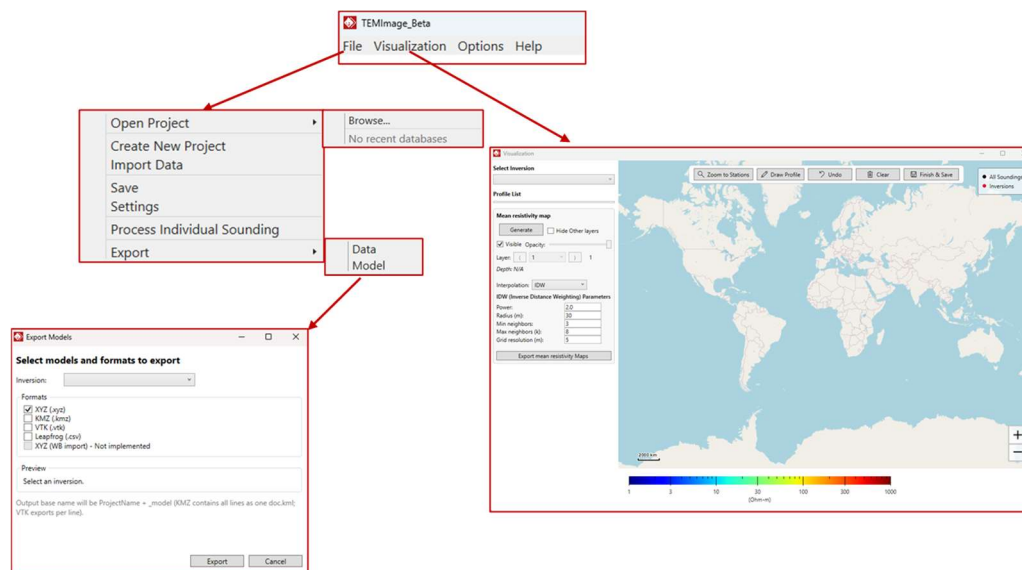
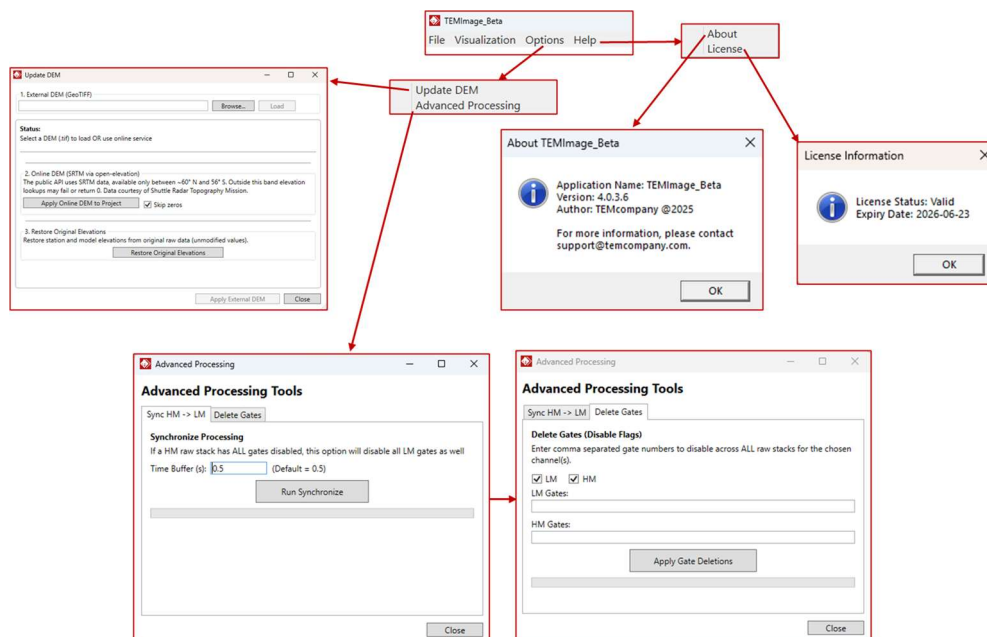

Figure 2: Overview of File and Visualization menus
Figure 3: Overview of Options and Help menus
The menu bar, located in the upper left corner, provides access to the following options (Figure 2 and Figure 3):
To begin, click on **File** and select **Create New Project** (Figure 2). A window will open prompting you to create a database file (.db), where all processed data will be stored.
Once your data is imported and processed, go to **File > Save** to store your work (Figure 2). This will save the current state of your work into the project database file.
1. Go to the **File** menu and choose **Export > Model** (Figure 2).